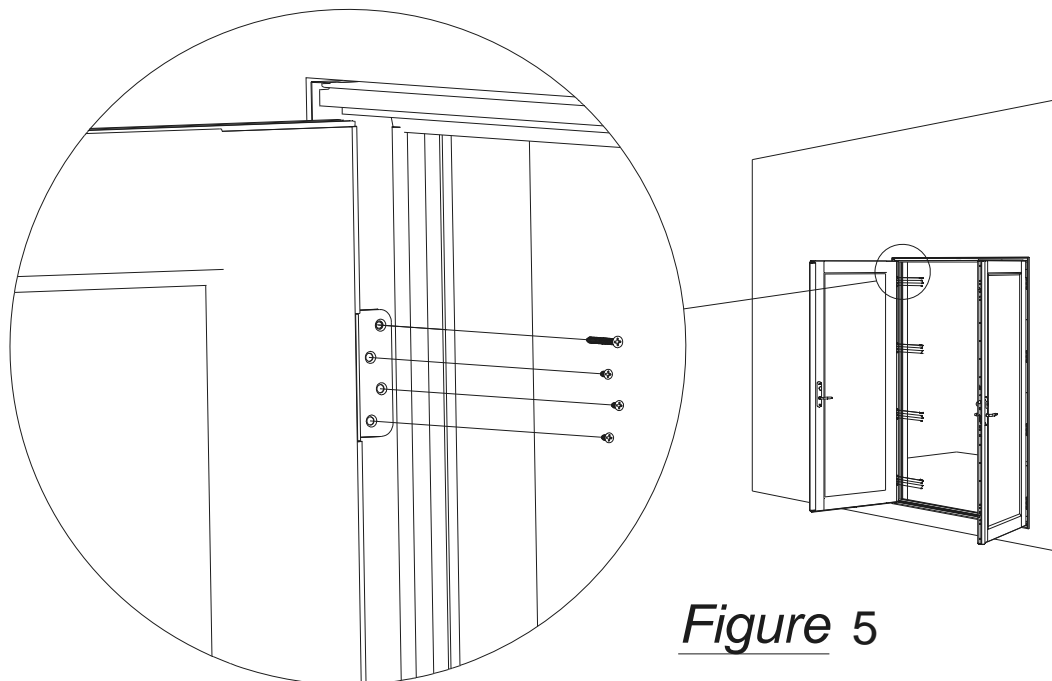

Figure 5
The product is shipped with the hinges pre-installed on the panels. When preparing to hang panels glass cups can make manipulating the panels much easier. Prepare a block (possibly 2X lumber) to rest the panels while fastening into the frame. The screws used for attaching each hinge to the jamb is (3) #10x1" SS deck type screws and (1) 3/16" concrete anchor (or Tapcon) through each hinge for additional hinge support. It is preferable to first hang the panel using the #10x1" screws then after one or both panels are hung fasten using the concrete anchors. **See figure 5& 6 below**